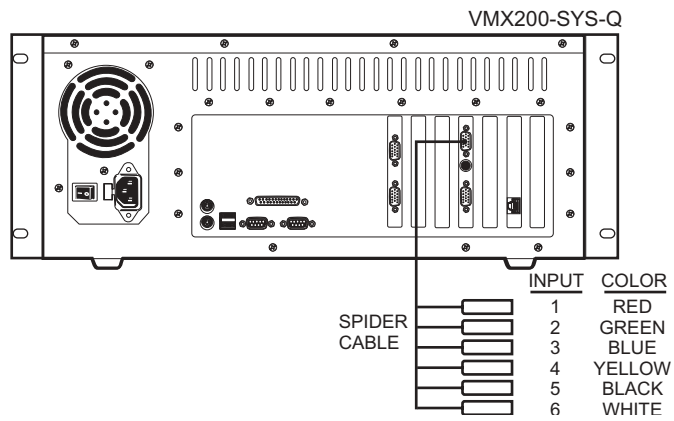

Figure 7. Video Inputs
* Refer to the video input details in Figure 7.
Follow these steps and refer to Figure 7 to connect the video: